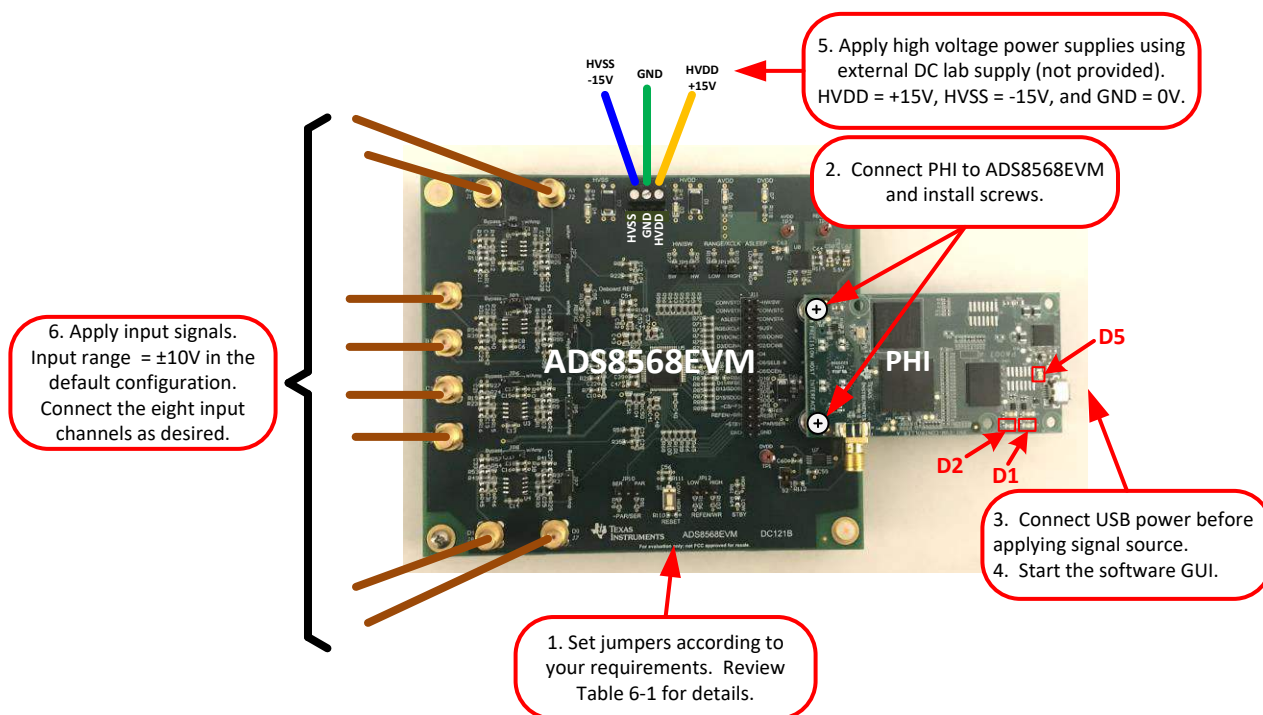

Figure 6-1. ADS8568EVM Hardware Setup and LED Indicators
- b. LEDs D1 and D2 on the PHI start blinking to indicate that the PHI is booted up and communicating with the PC; Figure 6-1 shows the resulting LED indicators.